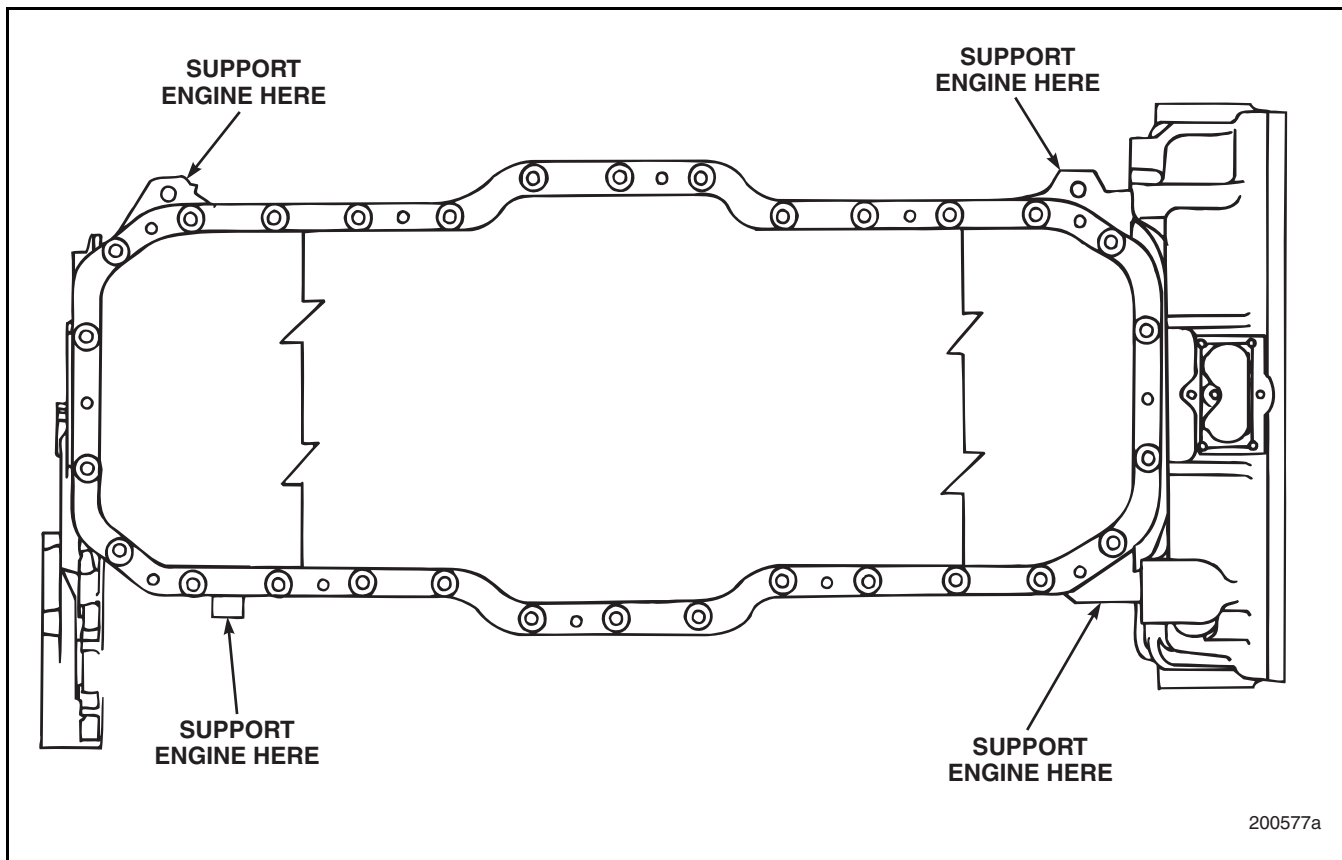

Figure 6-56 — Oil Pan Support Locations
*When servicing an E7 engine with an isolating oil pan arrangement, avoid using an engine stand that supports the engine on the oil pan rail while the oil pan is still installed. Damage to the oil pan, pan gasket or the isolators may result. If this type of stand must be used and the oil pan is to remain installed, support the engine on the pads provided at each corner of the cylinder block as shown in Figure 6-56.*